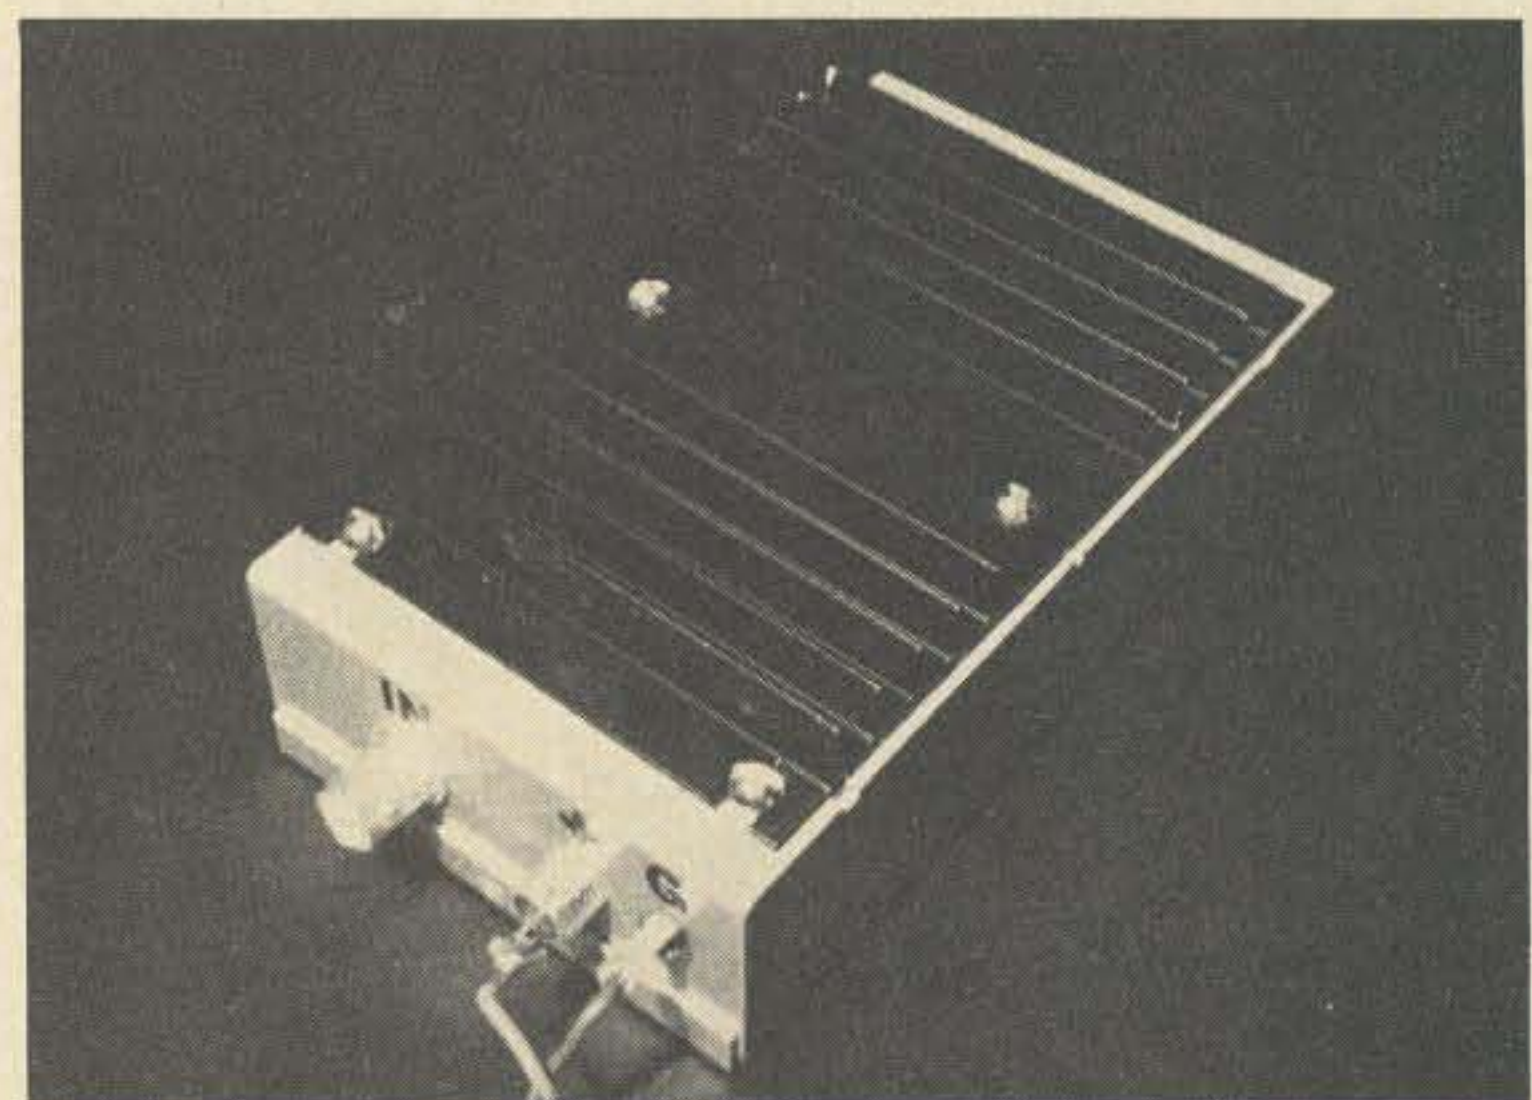

Fig. 12. Amplifier, top view.
17. The amplifier is now complete (see Fig. 12).